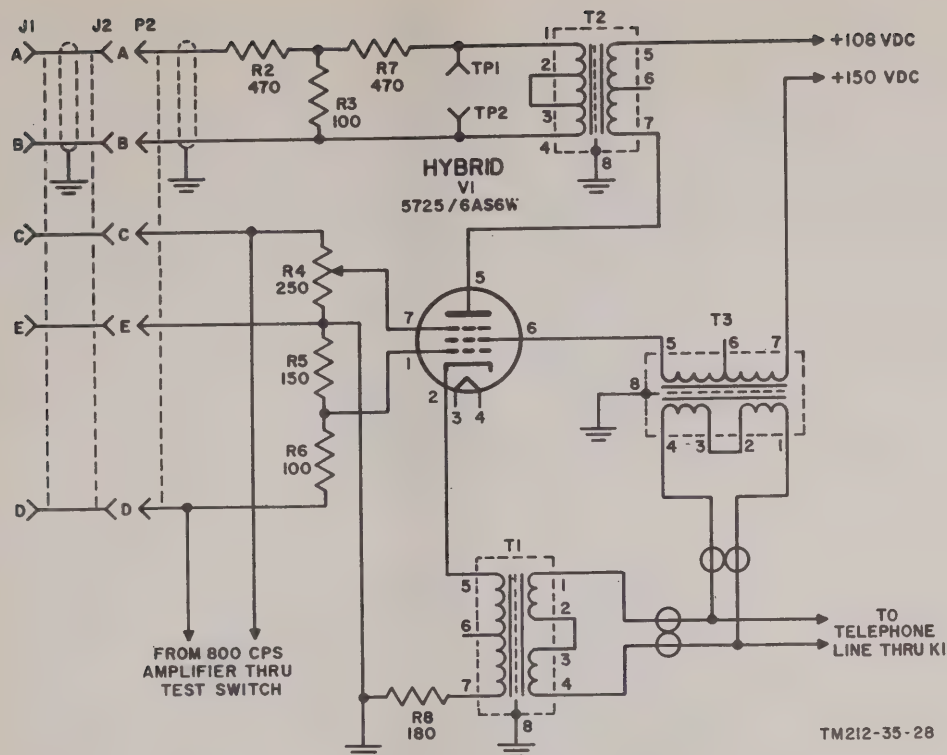

Figure 28. Hybrid V1.
(fig. 28)
*b. Receiving Voice Frequencies From Remote Radio Set* (fig. 28). The signal from the balanced audio output of the receiver is applied to terminals C and D of connector J1. This signal is developed across resistors R4, R5, and R6, connected in series. The resistors are in the grid circuit of V1, which is